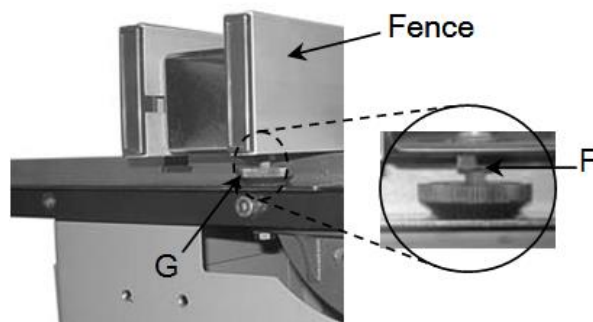

Fig. 14
1. Loosen the hex nut F on the leveling foot G located under the rear end of the fence Fig. 14;.